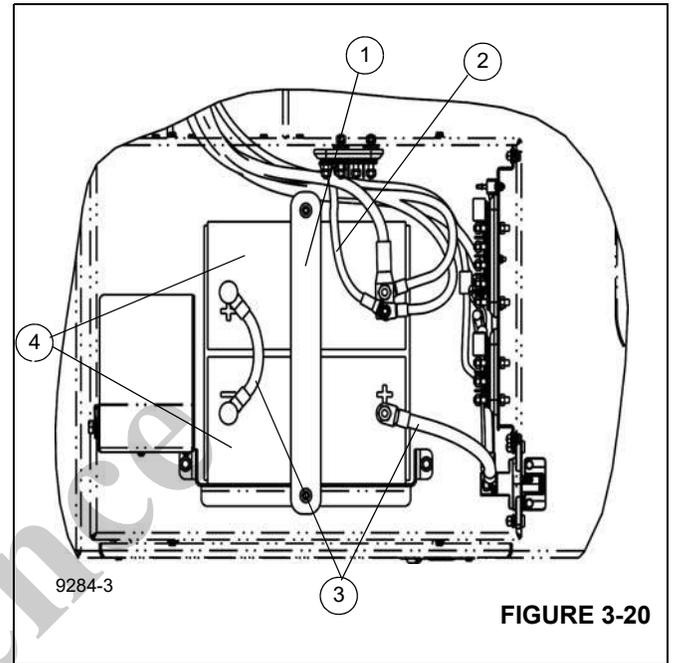

FIGURE 3-20
4. Remove the negative battery cables (3), (Figure 3-20).
5. Remove the positive battery cables (2), (Figure 3-20).
6. Remove the nuts and washers from the battery bracket hold down rod (1), (Figure 3-20). Remove the battery bracket hold down rod (1), (Figure 3-20).
7. Remove the batteries (4), (Figure 3-20). The weight of the starter motor is 14 kg (31 lbs).
1. Place the batteries in the battery compartment, refer to (Figure 3-20).